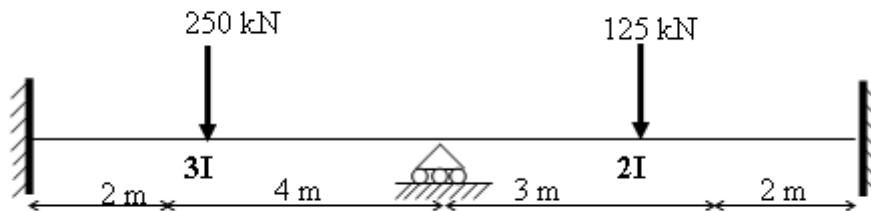

Figure 3:
4. A continuous beam supported and loaded as shown in figure 3. Draw the shear force and bending moment diagrams. [15]